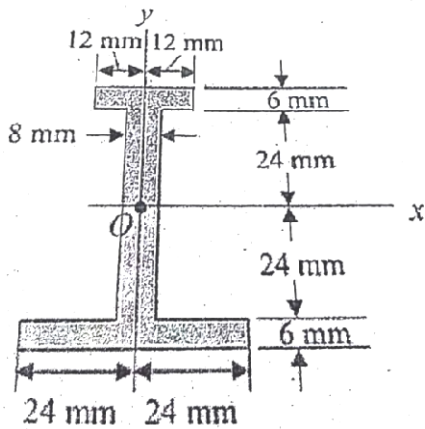

Figure 3.5
- Determine the moment of inertia of the shaded area with respect to both axes shown in Figure 3.5.